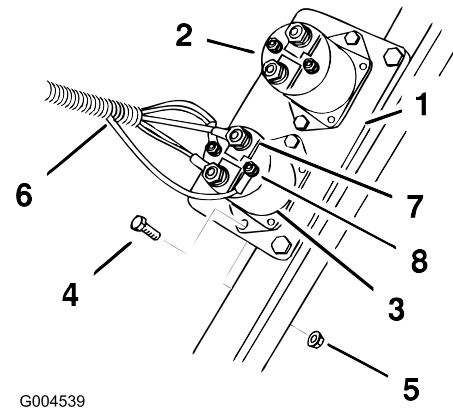

Figure 7
2. Install the solenoid on the existing plate using two bolts (#10 x 3/4 inch) and two nuts (#10) as shown in Figure 7.